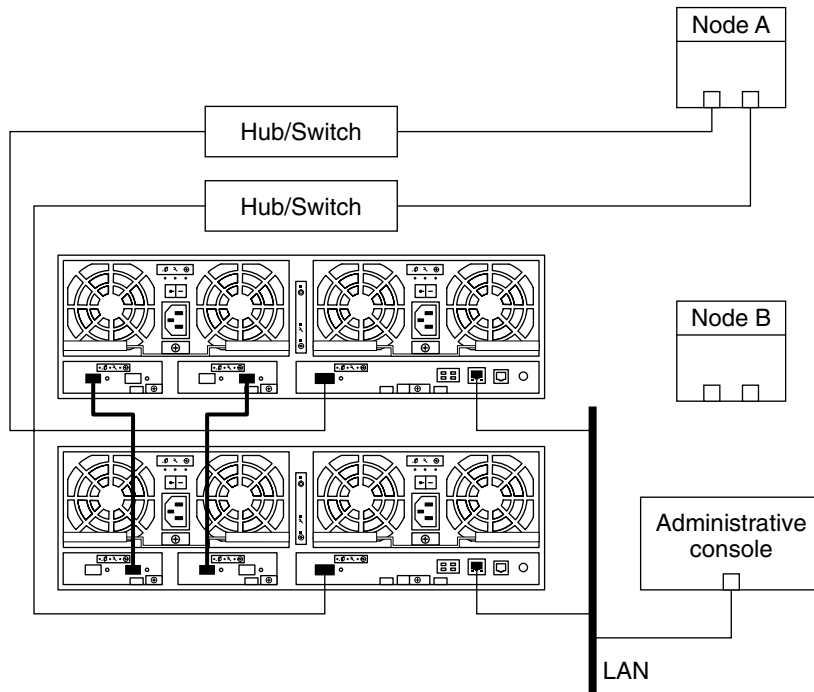

FIGURE 1-7 Adding a Partner-Group Configuration: Part II
24. Connect fiber-optic cables between Node A and the FC switches, as shown in Figure 1-7.